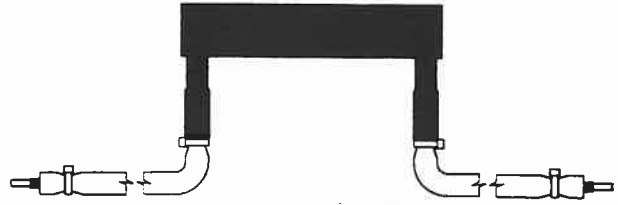

Figure 17 - Capacitor Discharge Resistor
A bleeder resistor consists of a power resistor with leads connected to each end; refer to Figure 17, "Capacitor Discharge Resistor". All connections must be hard wired (soldered). Conductors should be approximately three (3) inches in length. Entire resistor body and soldered connections to resistor must be encapsulated with 600 VDC rated "heat shrink" insulation.